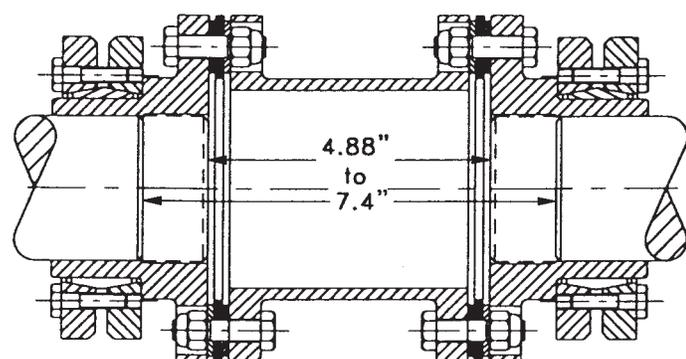

Fig. 8
5. With the RINGFEDER Shrink Disc® Connection, the 6" distance between shaft ends can be accommodated with the standard double flexing coupling. The shaft needs to be only 1.5" in each hub to ensure a proper Shrink Disc® Connection. This gives the coupling the flexibility to have a distance between shafts of 4.88" to 7.4". 6" is in that range. See Fig. 8.